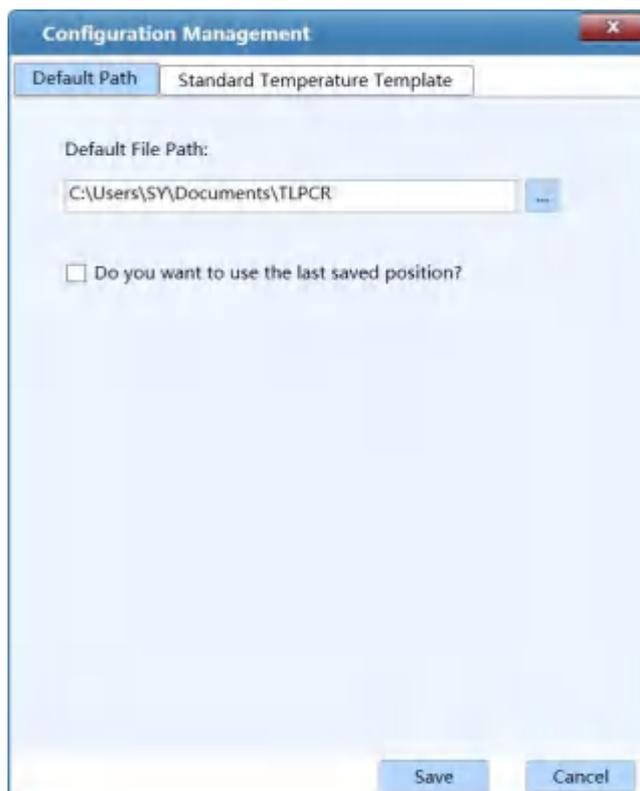

Figure D-2.7a Option submenu - Configuration Management interface - Default Path tab
1. **Configuration Management:** Click **Configuration Management** option in the **Option** submenu and the application software will automatically pop up the configuration management interface, as shown in figure D-2.7a.
- ▶ **Default Path** tab: the configuration management interface displays the **Default Path** tab by default, as shown in figure D-2.7a.